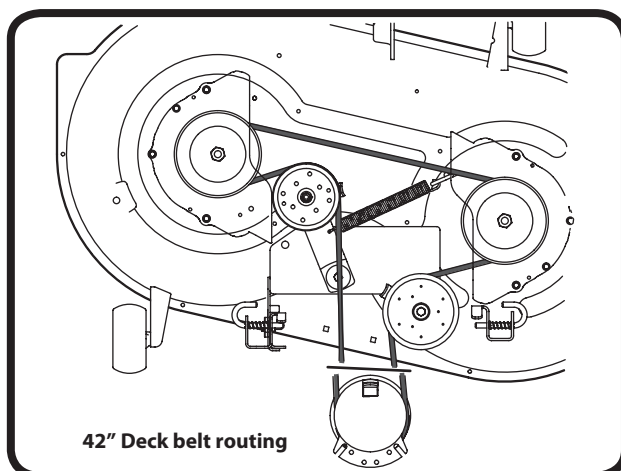

Figure 7.7
4. Route the new belt around the pulleys. See Figure 7.7.